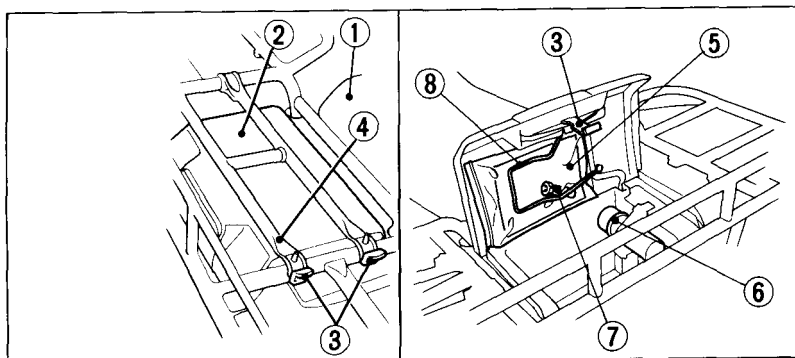

Fig. 2-28
The storage compartment (Fig. 2-28) is behind the seat. To open the compartment, unhook the rubber straps (3) and lift the hinged section of the rear rack (4). The Owner's Manual (5), tool kit (6), and air pressure gauge (7) should be stored in the storage compartment.